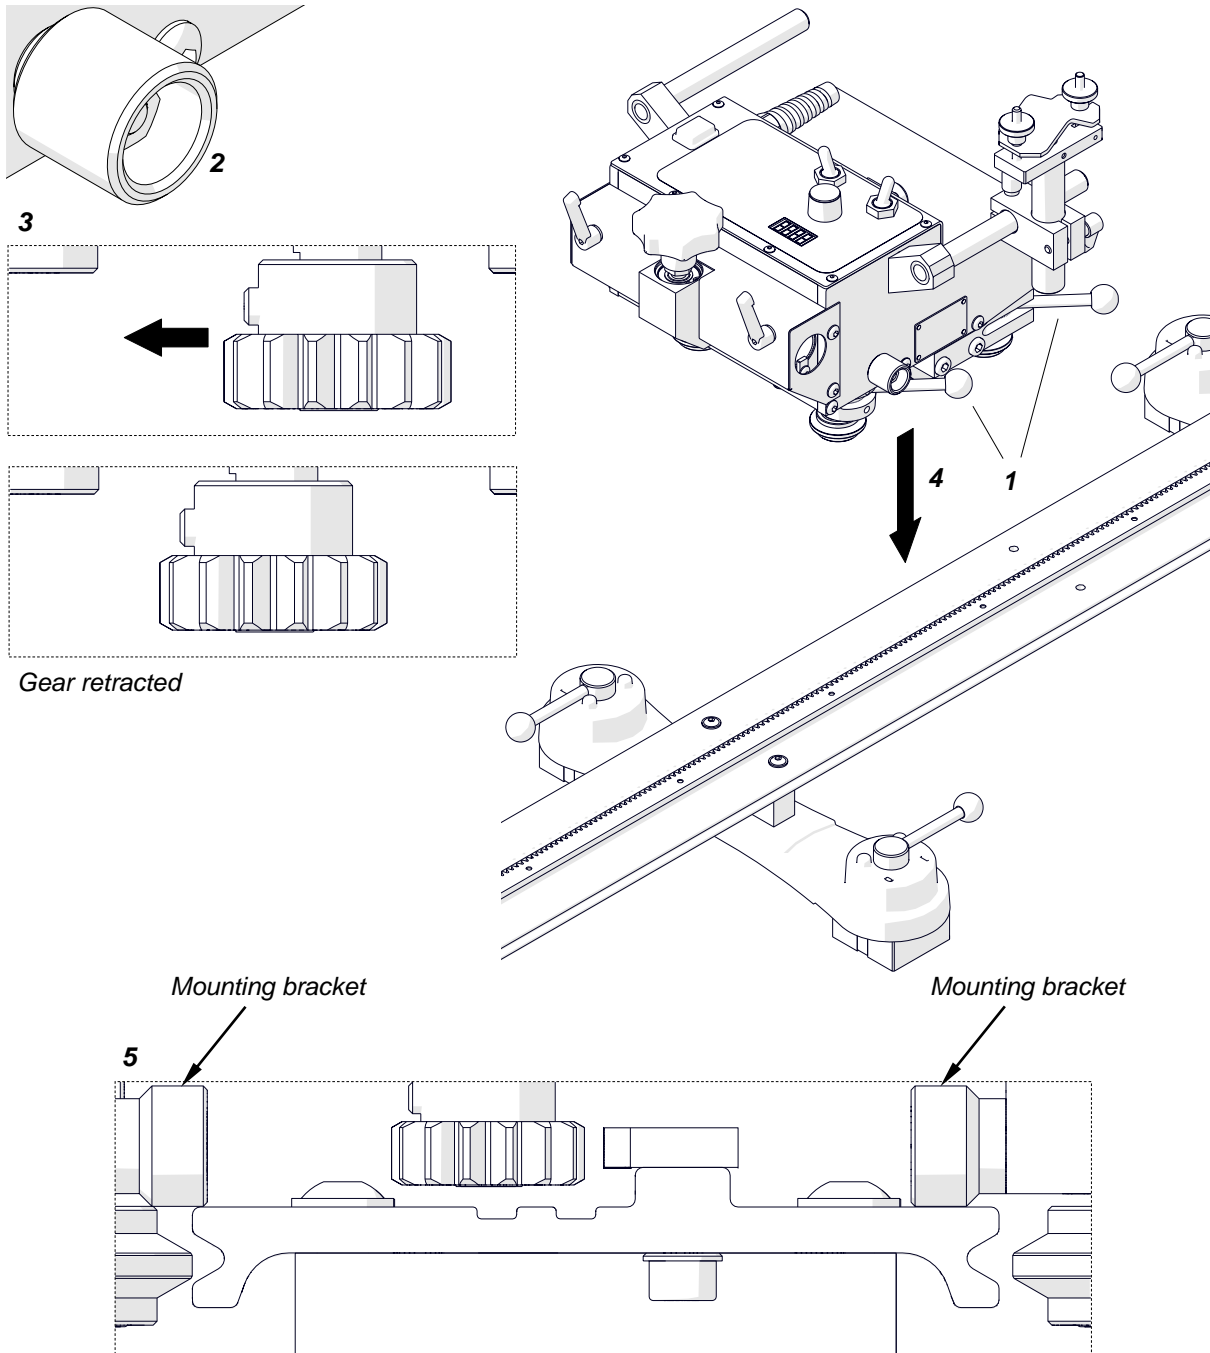

Fig. 6. Putting the carriage on a straight track
Set the power switch, arc ignition switch, and direction switch to 'O'. Next, set the levers to OFF (1, Fig. 6), and then loosen the knob (2) fully to retract the gear (3). Then, put the carriage so that the mounting brackets are on the rail (4, 5).